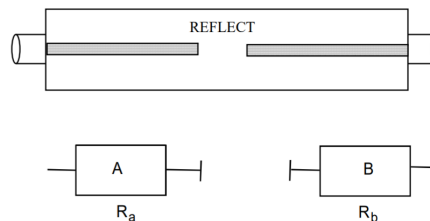

Figure 6: REFLECT standard for 2-port TRL calibration
2. For a 2-port TRL calibration, we normally need to measure 2 REFLECT standard as shown in Figure 6. Does REFLECT_A (for port 1) have to be the same as REFLECT_B (for port 2)? Explain why or why not.